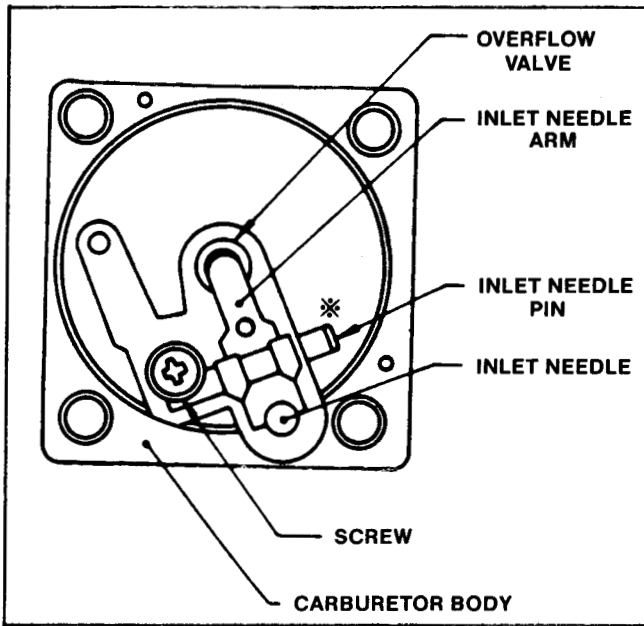

Figure 27
7. Replace the inlet needle pieces by installing the inlet needle, the inlet needle spring, the inlet needle arm and secure with the screw. See Figure 27.